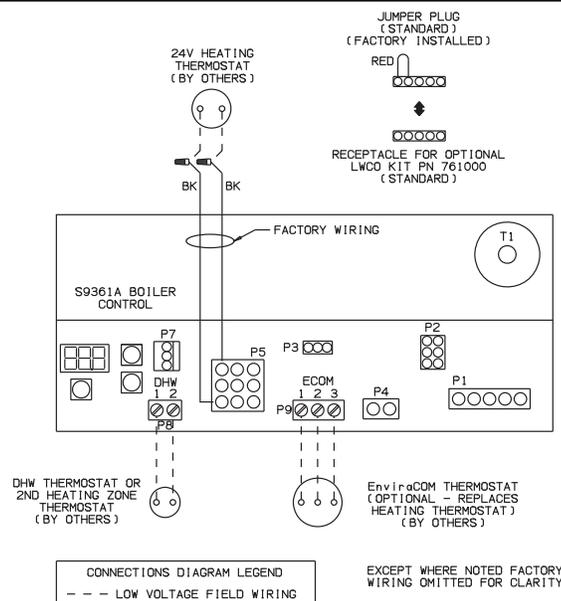

FIGURE 9.1: LOW VOLTAGE CONNECTIONS
- a) Heating Circulator - Pumps water upon a call for heat (CH) from a heating thermostat connected to the leads shown in Figure 9.1 or from an EnviraCom thermostat.
- b) DHW Circulator - Pumps boiler water to an indirect water heater upon a call for domestic hot water (DHW) from the DHW thermostat terminals shown in Figure 9.1. This output can also be used for a second space heating zone. See Section Xb of this manual for additional information.
2) Low Voltage Connections – Low voltage field connections are located as shown in Figure 9.1 and are as follows:
- c) Option Plug - Used to connect Crown #761000 optional LWCO kit. If this kit is not installed, the factory supplied jumper plug shown in Figure 9.1 must be installed for boiler to operate.